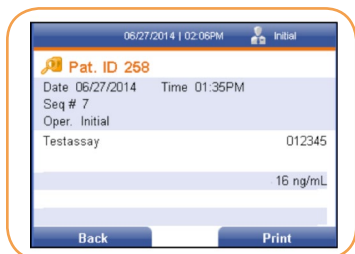

FIGURE 59
- Using the [↓] key, select the desired result line. Use the right soft key on the keypad to select Show Details. The date and time the result was obtained is displayed, along with the sequence number, the operator, test number, test lot, control result?? and patient result (Figure 59).